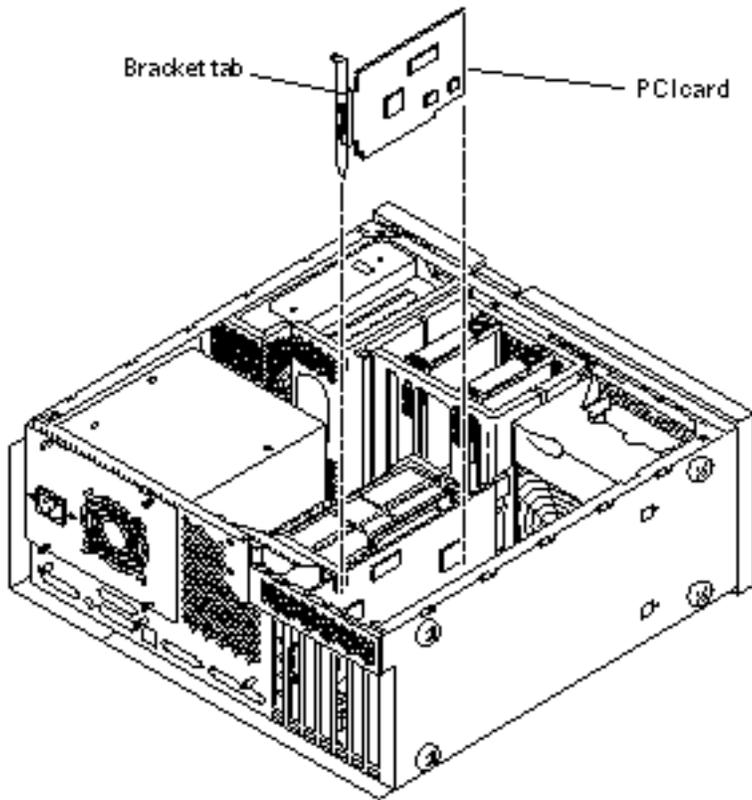
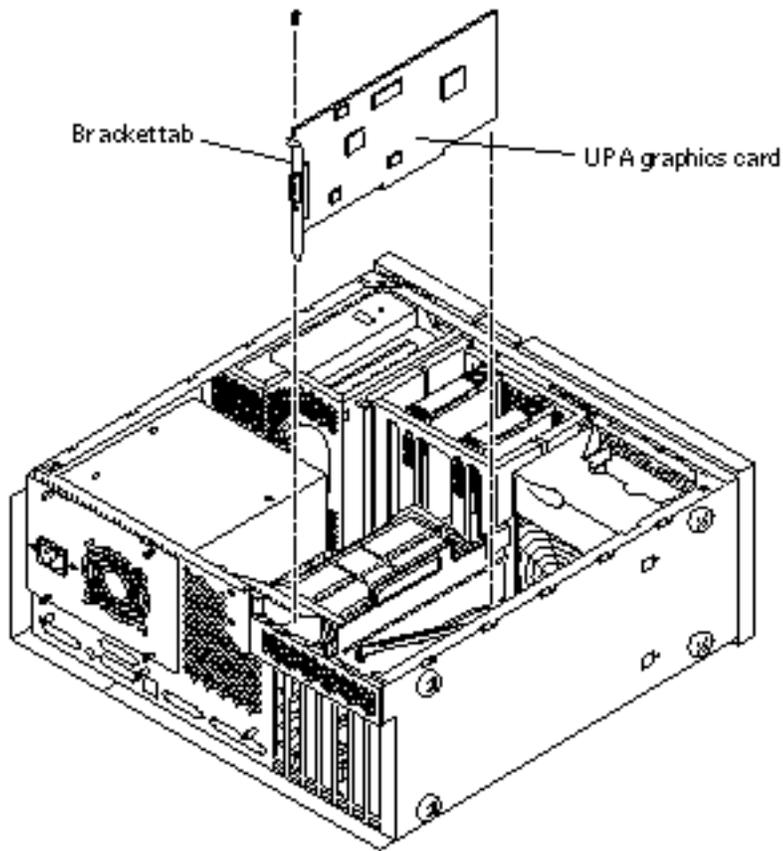

Figure 1-5 Removing and Replacing a PCI Card
Figure 1-6 Removing and Replacing a UPA Graphics Card
5. Remove any long PCI cards and UPA graphics cards (Figure 1-5 and Figure 1-6):
- 8. Replace any long PCI cards or UPA graphics cards (Figure 1-5 and Figure 1-6).**